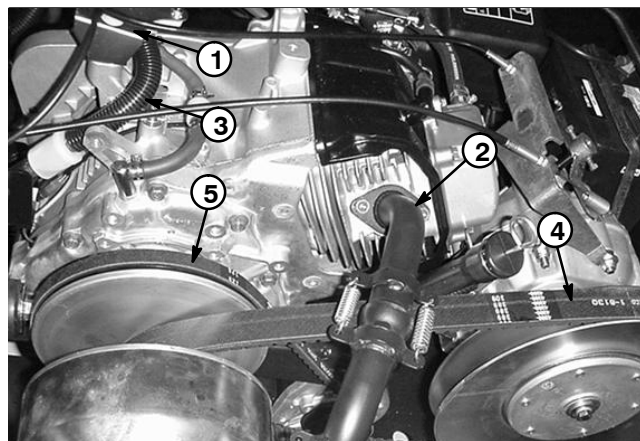

Figure 18
5. Disconnect fuel hose from the fuel pump (Fig. 18). Remove cable tie securing the choke and throttle cables to the fuel pump bracket.
A. Attach a short section of chain between fuel pump bracket lift hole and exhaust manifold (Fig. 18).
9. Connect fuel hose to the fuel pump (Fig. 18).